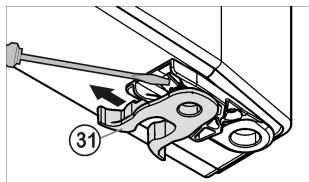

Fig. 7
- Swap the spring clip *Fig. 7* (31): Push the locating lug down. Pull the spring clip up and out.